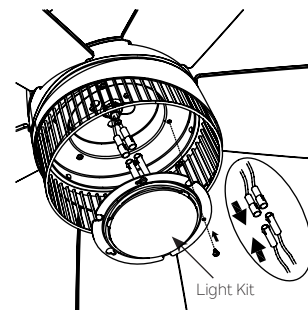

Fig. 22
Step 2. Hold the light kit close to the light kit housing and connect the WHITE wires from the light kit and fan by pushing the connectors together. Follow the same procedure with the BLACK wires. (Fig. 22)
Step 3. Tuck the connections neatly into the light kit. Place the two slot holes on the light kit over two (2) screws previously loosened from the light kit housing. Rotate the light kit until it locks in place at the narrow end of the key holes. Securely tighten two(2) screws previously loosened and the one previously removed. (Fig. 22)